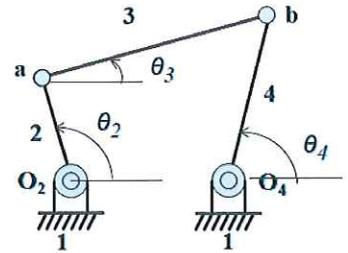

Fig.1. Four-bar linkage
1. Figure 1 show a four-bar linkage. For the mechanism, if  $r_1=250\text{cm}$ ,  $r_2=100\text{cm}$ ,  $r_3=250\text{cm}$ , and  $r_4=150\text{cm}$ , (a) write down the vector loop equation, (b) if  $\theta_2 = 120^\circ$ , please find find the values of  $\theta_3, \theta_4$ , and transmission angle  $\mu$ . (20%)